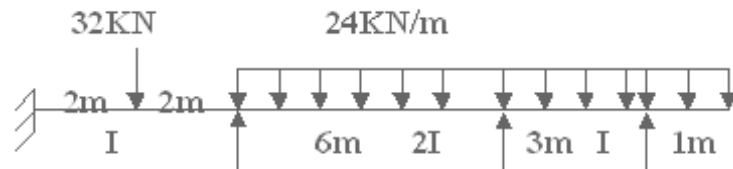

Figure 6
6. Determine the support moments for the continuous beam shown in figure 6 and draw BMD by using Kanis method. [16]